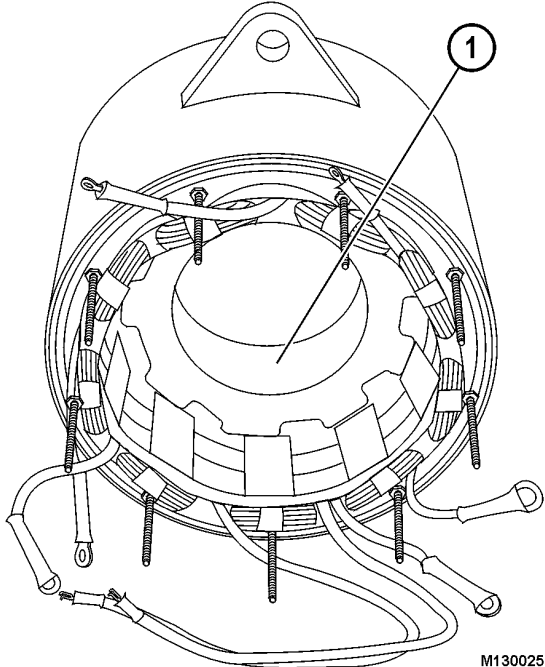

FIGURE 13-21.
4. Seat field coil bobbin ears over stator tabs (Figure 13-21) by inserting field winding and rotating about 20 degrees after insertion with tool BF4820. Align screw holes in bobbin ears with screw holes in stator tabs.